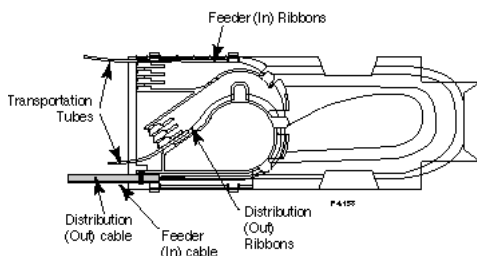

Figure 18
2. Attach both central core tube ends to the ribbon router with one large tie wrap. (Figure 18) The distribution or "out" cable should be on top. Seal ends of core tube with company approved sealer.
4. Route the ribbons to be spliced through the ribbon router as shown in Figure 18.